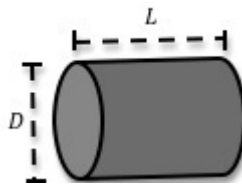

Figure 2: Sketch showing length and diameter of a cylinder
where  $M$  is the mass of the cylinder. You will measure the mass, length, and diameter of your cylinder (see Fig. 2), and use Eq. (4) to calculate the density.